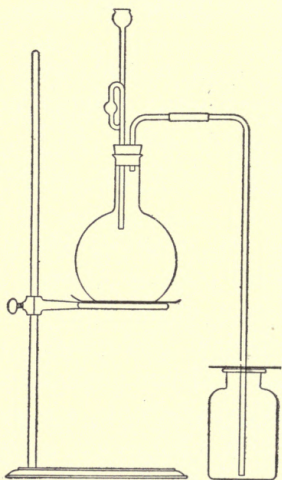

FIG. 11.
55. Arrange an apparatus as shown in Fig. 11. The flask should be of about 500 cc. capacity. The delivery tube should extend to the bottom of the bottle. Place
64. For the generation of hydrogen chloride (HCl), arrange an apparatus as shown in Fig. 11, page 36. Place about 20 gms. of NaCl in the flask and add through the thistle tube 100 cc. of a mixture of equal parts by volume of water and concentrated H_2SO_4 . (Pour the acid into the water.) Warm the flask gently and collect the gas evolved by displacement of air, i.e., by the same method used for the collection of chlorine. Collect four or five bottles.